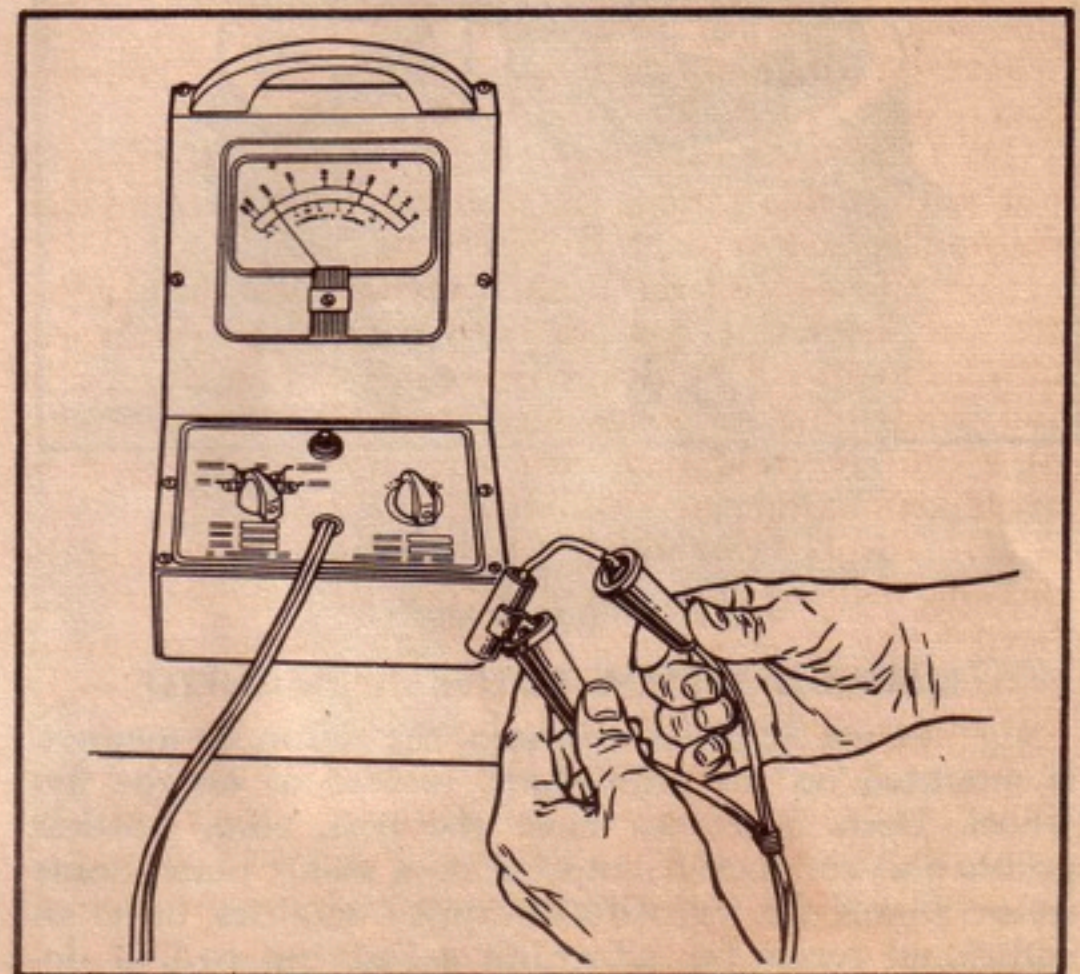

Figure B-14. Testing Condenser
(20) The condenser should be replaced if the terminal lead and insulating washer in the end of the condenser are in bad condition. If these parts appear to be good, test the condenser in accordance with an approved condenser tester, as shown in figure B-14.
(21) Test the condenser for breakdown, capacity, and series resistance, any of which, if defective, would render the condenser useless. The capacity of the condenser should be .11 to .13 mfd.
(22) Lubrication—The only lubrication needed in the magneto is the cam wick. This is saturated with grease at the factory. If it becomes dry, the felt may be removed and new grease worked into it. (Use Lubriplate grease or equivalent.) Avoid using oil in the magneto. It may get into the breaker points and cause trouble.